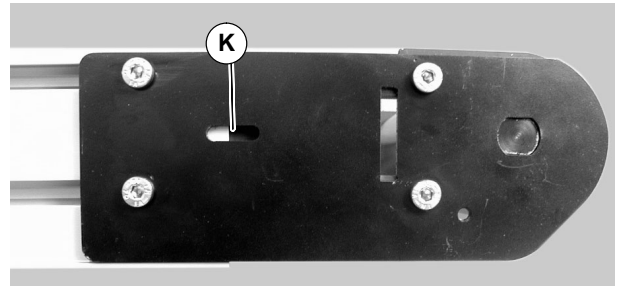

Figure 30
15. Extend head plate assembly until proper tension in the belt is achieved. If proper tensioning can not be obtained before the belt life indicator is all black (K of Figure 30) the belt must be replaced.